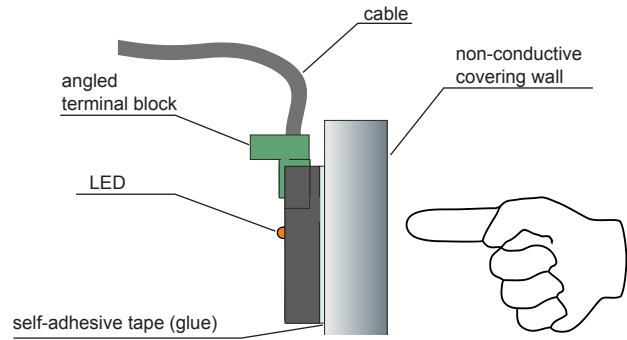

Fig. 1: CTS-41-0 sensor installation
2. Install the sensor on the back side of the covering wall in a place which is intended for finger contact (see Fig. 1 and 2). The sensor can be installed behind a wall of an object made of non-conductive material (such as wood, chipboard, glass, ceramics, plasterboard, etc.). Maximum thickness of the covering wall is 30 mm.